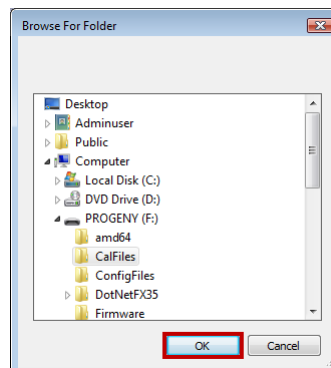

Figure 10: Select the source folder for the calibration file
- The dialog box shown on Figure 10 will appear to allow selection of the calibration file(s) source folder. The initial selection will point to the source folder on the current USB flash drive. Navigate to the calibration file source folder if needed and click on the ‘OK’ button to continue.